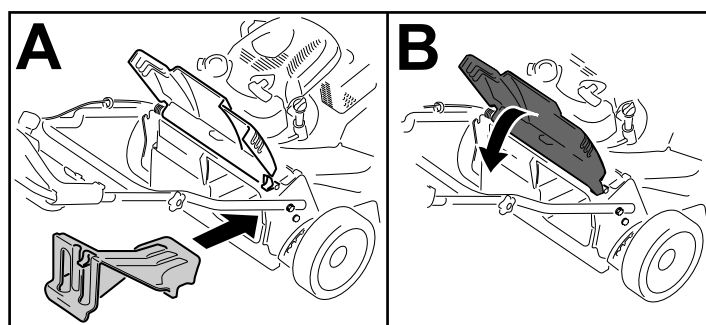

Figure 20
**Important:** Ensure that the rear-discharge plug is in place before you recycle the clippings (Figure 20).